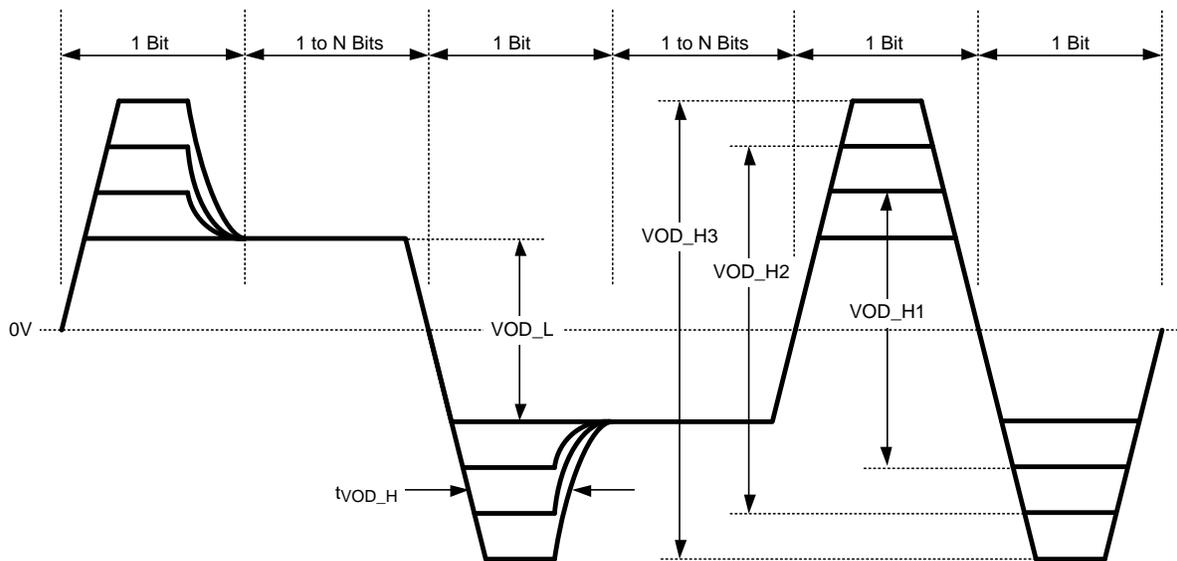

Figure 1. Pre-emphasis Circuit is Most Useful When the Boost Pulse Duration (t_{VOD_H}) is about 75% of the UI
For system designers, an important parameter of a pre-emphasis circuit is the boost or gain it provides. The higher the boost, the more attenuation the circuit can compensate for and ultimately transmit over a longer transmission medium. As an example, Figure 1 illustrates an output signal from a driver with four pre-emphasis boost levels and the signal's time domain characteristics. The signal is a pattern starting with one bit high (H), followed by one to N bits H, followed by one bit low (L), followed by one to N bits L, followed by an H and an L. Note the signal's nominal amplitude of VOD_L and three distinct boost amplitudes (VOD_H1-3). The boost is simply 20 times log of the ratio of the VOD_H and VOD_L expressed in dB. It is also important to note that the duration of the boost pulse ($t_{VOD,H}$) should optimally be about 75% of the unit interval (t_{UI}); shorter boost pulse duration will provide lower gain. LVDS devices from Table 1 feature pre-emphasis circuits that provide up to four pre-emphasis levels.